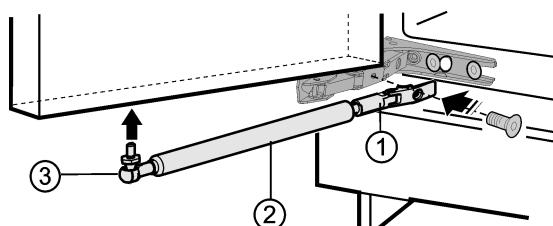

Fig. 3
- ▶ Screw on retainer Fig. 3 (1).
- Screw in ball stud *Fig. 3 (3)* together with the soft stop mechanism *Fig. 3 (2)* in the fastening hole.